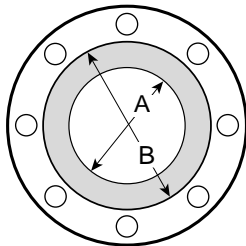

Figure 1
**2.** The gray area of the mating face (Figure 1) must be free from gouges, undulations, or deformities of any type for proper sealing.